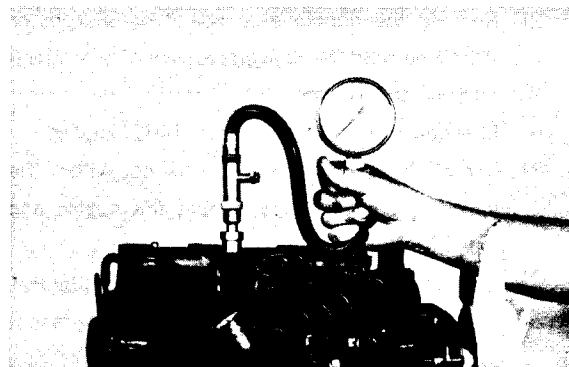

Figure 30a
3. Connect the high pressure compression gauge to the adapter (Fig. 30a).